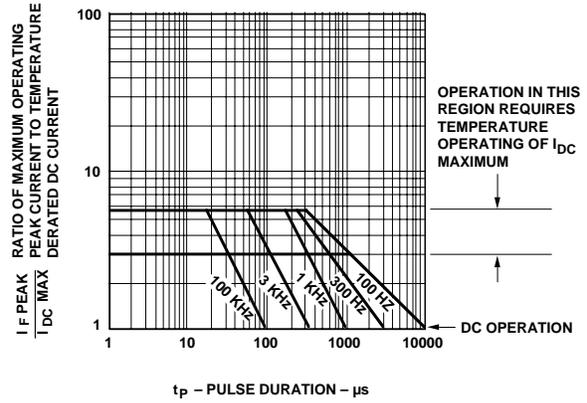

Figure 7. Maximum Tolerable Peak Current vs. Pulse Duration - Yellow.
5. See Figure 7 to establish pulsed conditions.